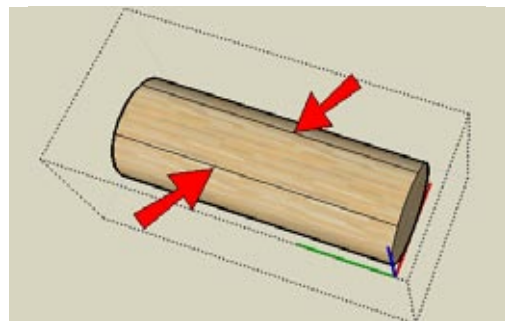

Figure 3-63
4. Check the Components page of the Model Info window to ensure that components are hidden while editing. Open the middle component for editing. Right-click on the cylinder face and choose Intersect→Intersect with Model. This creates two edges on the top and two on the bottom, where the middle log meets the top and bottom ones (Figure 3-63).